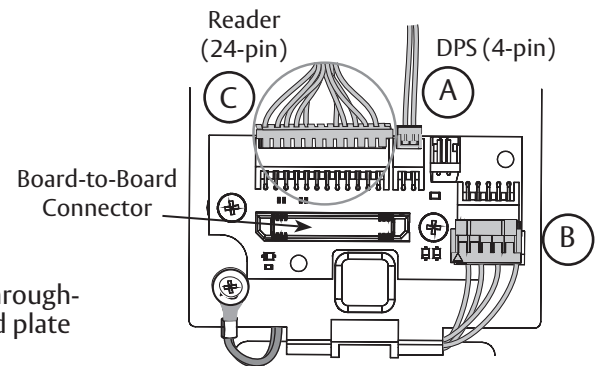

Fig. 10b
Secure the following connectors (Fig. 10b, c):
- Secure the 24-pin card reader connector (Fig. 10b, c).